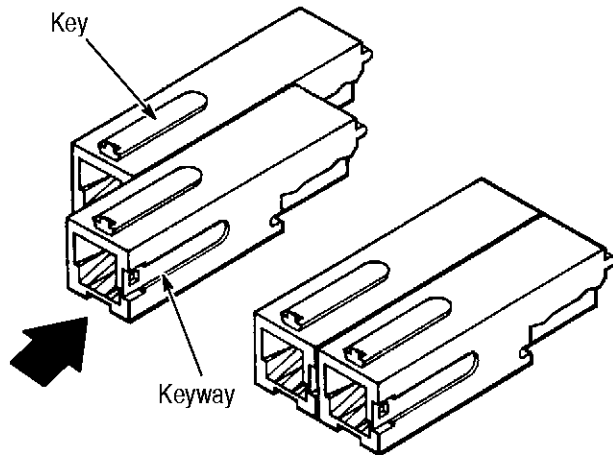

Figure 2
1. Align key on one housing with keyway on other housing as shown in Figure 2.